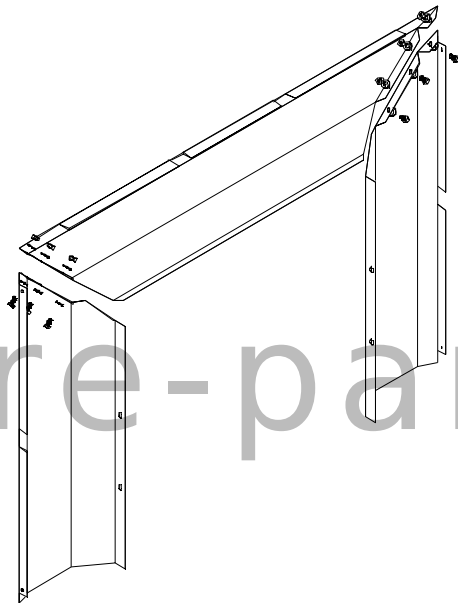

Figure 14
2. Line up the holes of the top and side panels and secure them with six (6) bolts, twelve (12) washers and six (6) nuts (See Figure 14).